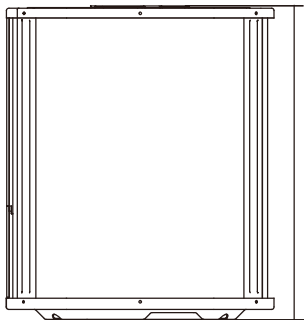
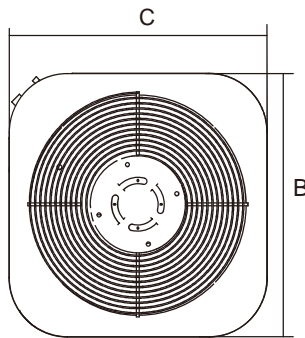

Fig.6-5
Fig.6-6
- The minimum distance between the outdoor unit and obstacles described in the installation chart does not mean that the same is applicable to the situation of an airtight room. Leave open two of the three directions (M,N,P) (Refer to Fig.6-5)
| 18 | 633/24.92in | 554/21.81in | 554/21.81in | Refer to Fig.6-5 Fig.6-6 |